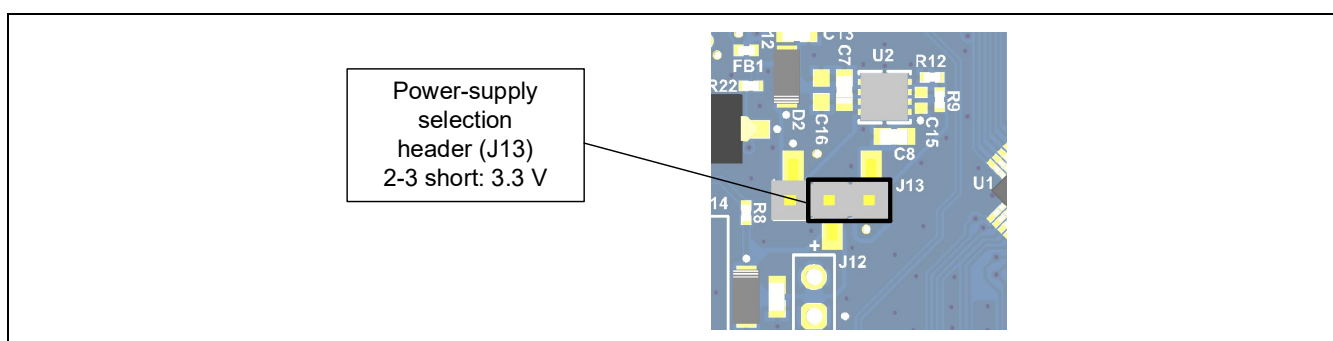

Figure 5-3 Setting of the Header to Select a 3.3-V Power Supply
- 2-3 of J13 being short-circuit selects a 3.3-V power supply (Figure 5-3).